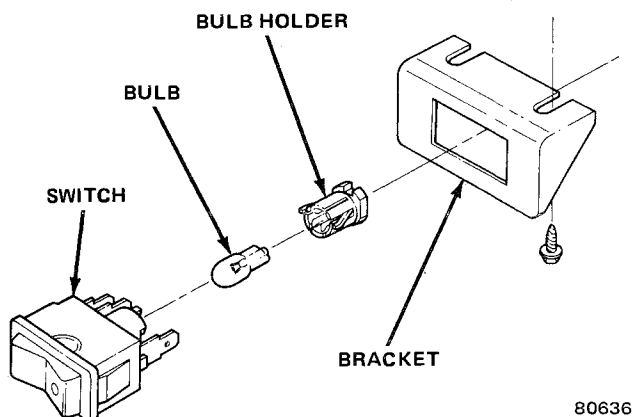

Fig. 3R-19 Off-Road Driving Lamp Switch Components
- (1) Remove bulb holder from switch (fig. 3R-19).